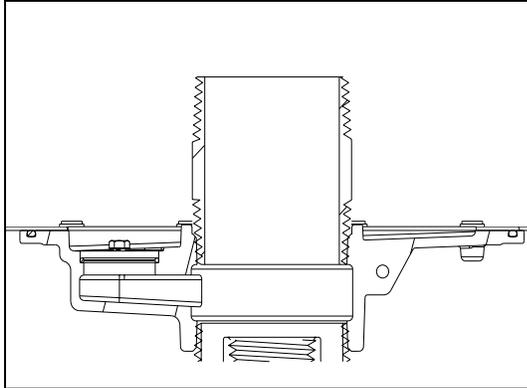

Figure 2
- Apply pipe dope to a 4" or 6" NPT pipe nipple no more than 6" in length and thread in to the inside of the spill container base. The pipe dope is to be a non-hardening, gasoline resistant, pipe thread seal compound. (See Figure 2)